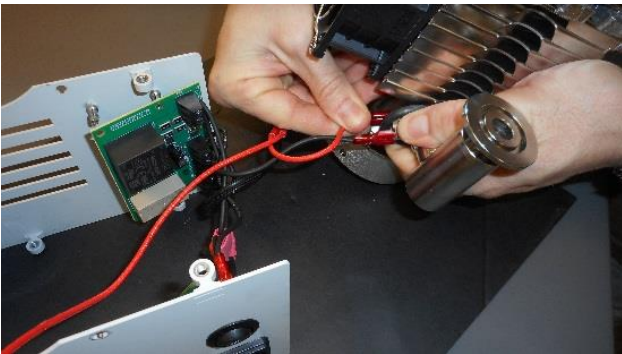

Fig 4
8. Remove the other spade connected red heater lead from the switch component. See Fig 4.